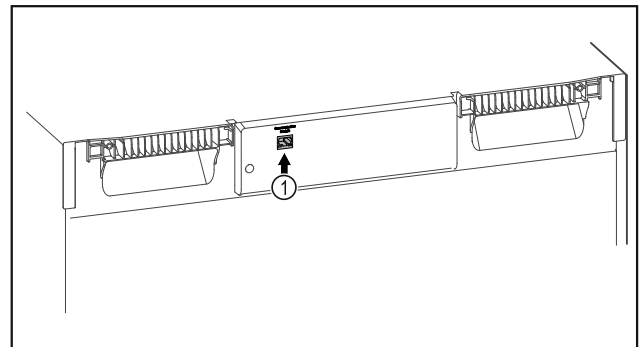

Fig. 105
- ❑ SmartModule Fig. 105 (1) is in use.